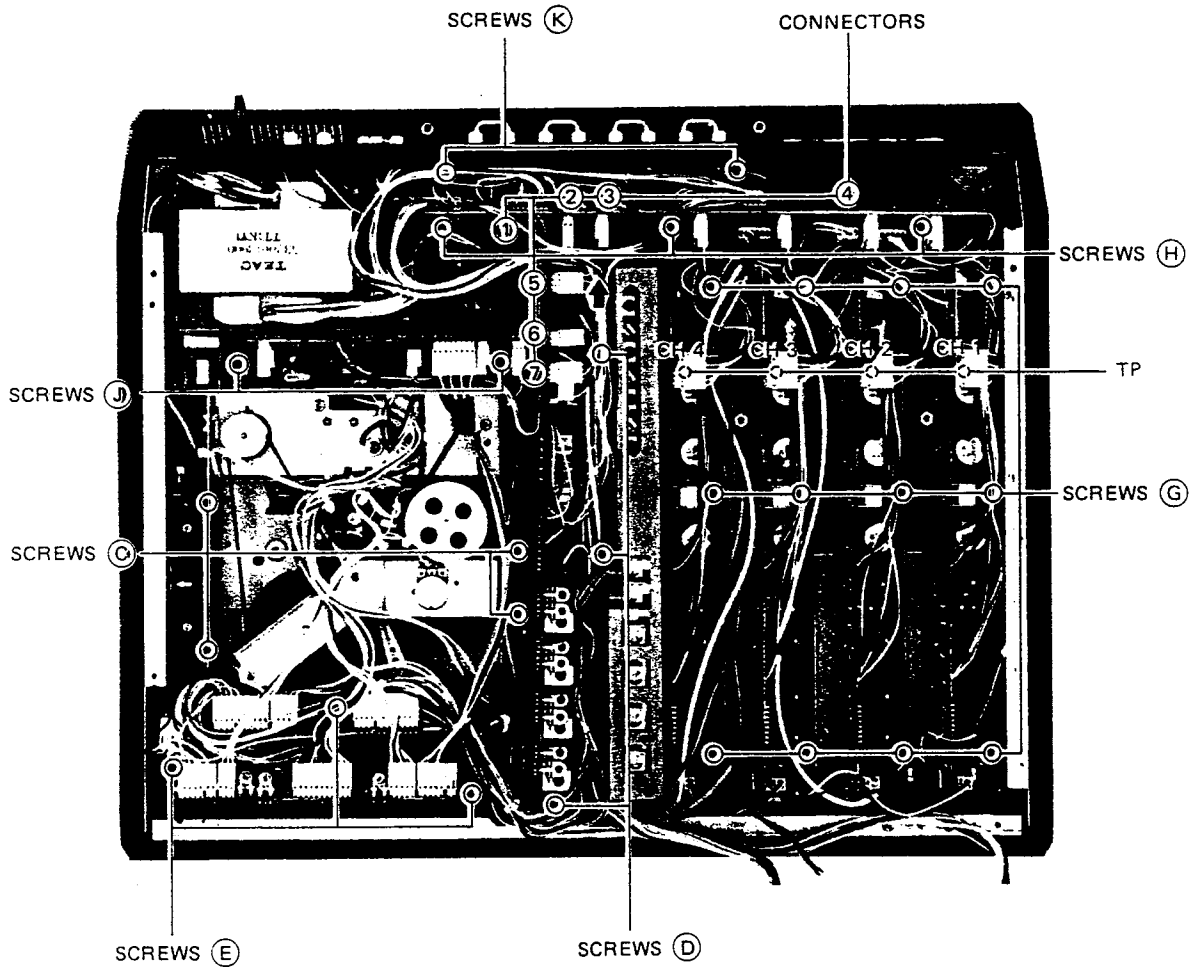

Fig. 6-3-3
- 1) Refer to Fig. 6-3-3.
- 2) Remove three screws (D) securing the PCB Ass'y, one of which is used to secure the Trim Cover Ass'y commonly and belongs to one of nine screws to be removed when the Trim Cover Ass'y is removed. Then, disconnect the seven connectors indicated by arrows (1)-(7) and connected to the PCB Ass'y.
- 2) Remove 3 screws (E) securing the PCB Ass'y.
- 3) Remove 3 screws (G) securing the PCB Ass'y for the channel to be removed and disconnect the connectors connected to the Ass'y.
Remove 3 mounting screws marked (H), refer to Fig. 6-3-3.
Remove 2 mounting screws marked (J), refer to Fig. 6-3-3.
Remove 2 mounting screws marked (K), refer to Fig. 6-3-3.